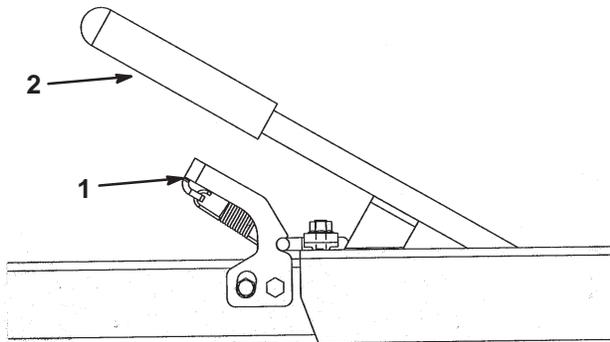

Figure 10
1. Press down on latch assembly and lift handle (Fig. 10). Lower trailer bed to ground.